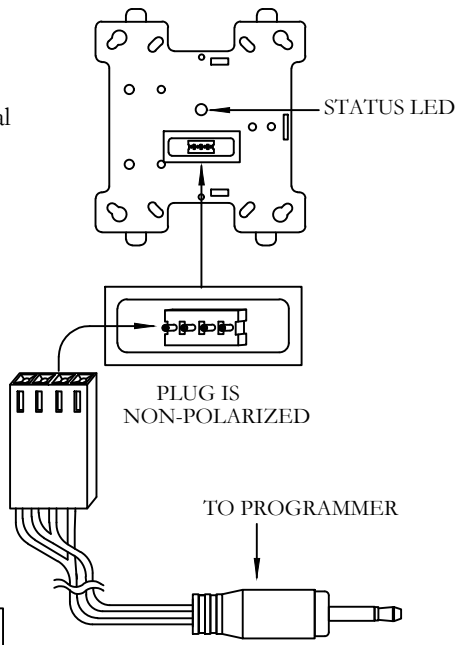

FIGURE 1. EXPLODED VIEW OF ADDRESS PROGRAMMING PLUG AND CONNECTOR
- 3) The address must be set on the module before cover plate is attached (see Figure 1).